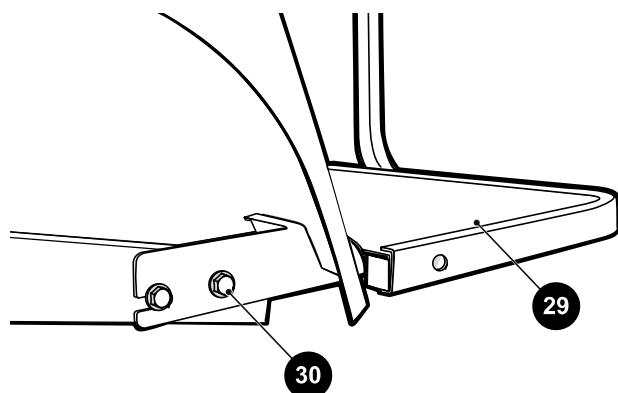

Figure 18 Foot Rest Removal
12. Loosen four hex head bolts (30). Support the rear foot rest (29) before removing the bolts (30) closest to the rear of the vehicle completely. When the bolts are removed the foot rest assembly (29) may be removed from the vehicle by sliding it backward and off of the two remaining bolts (Figure 18).